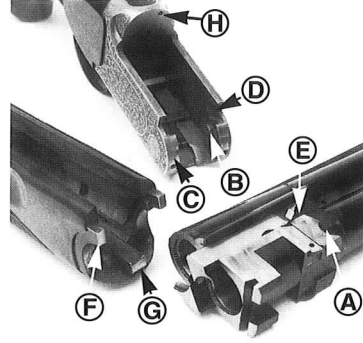

Fig. 2
2. Remove the stock and action from its plastic cover and lubricate all the contact points shown in **Fig. 2 (A,B,C,D)** with a few drops of high quality gun oil.
5. Referring to **Fig. 2**, hook the barrel recesses **(A)** over the trunnions **(B)** with the barrels pointing down, at about 45 degree to the receiver.
6. If your model is equipped with automatic ejector, be sure that the ejector lugs (E) enter the lug recesses (D) in the receiver. **See Fig. 2.**
7. For long term storage or shipping, the top opening lever should be restored to the center position. To do this, push and hold the top lever to the right to relieve tension on the top lever release button. Then using a hard object, depress and hold flush with breech face the top lever release button **(H)** **(Fig. 2)**. Now slowly allow the top lever to return to the center position.